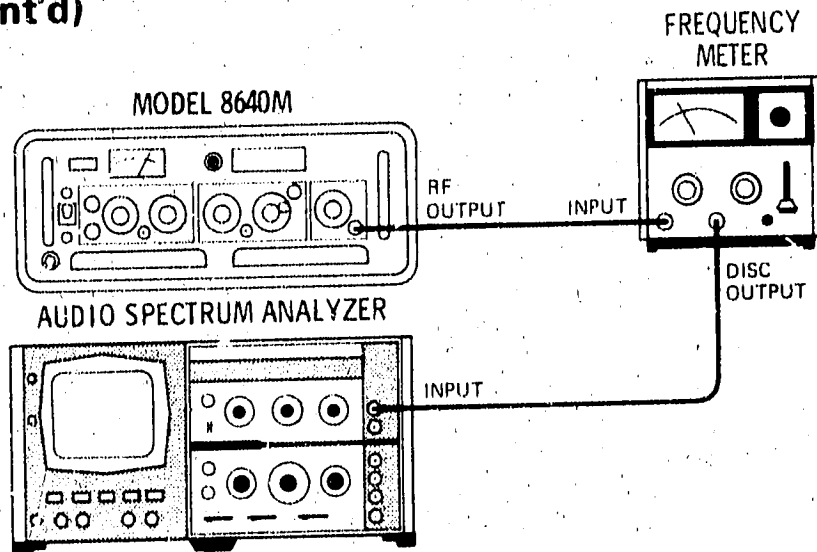

Figure 4-10. FM Distortion Test Setup
- Connect equipment as shown in Figure 4-10 after setting Signal Generator's controls as follows: